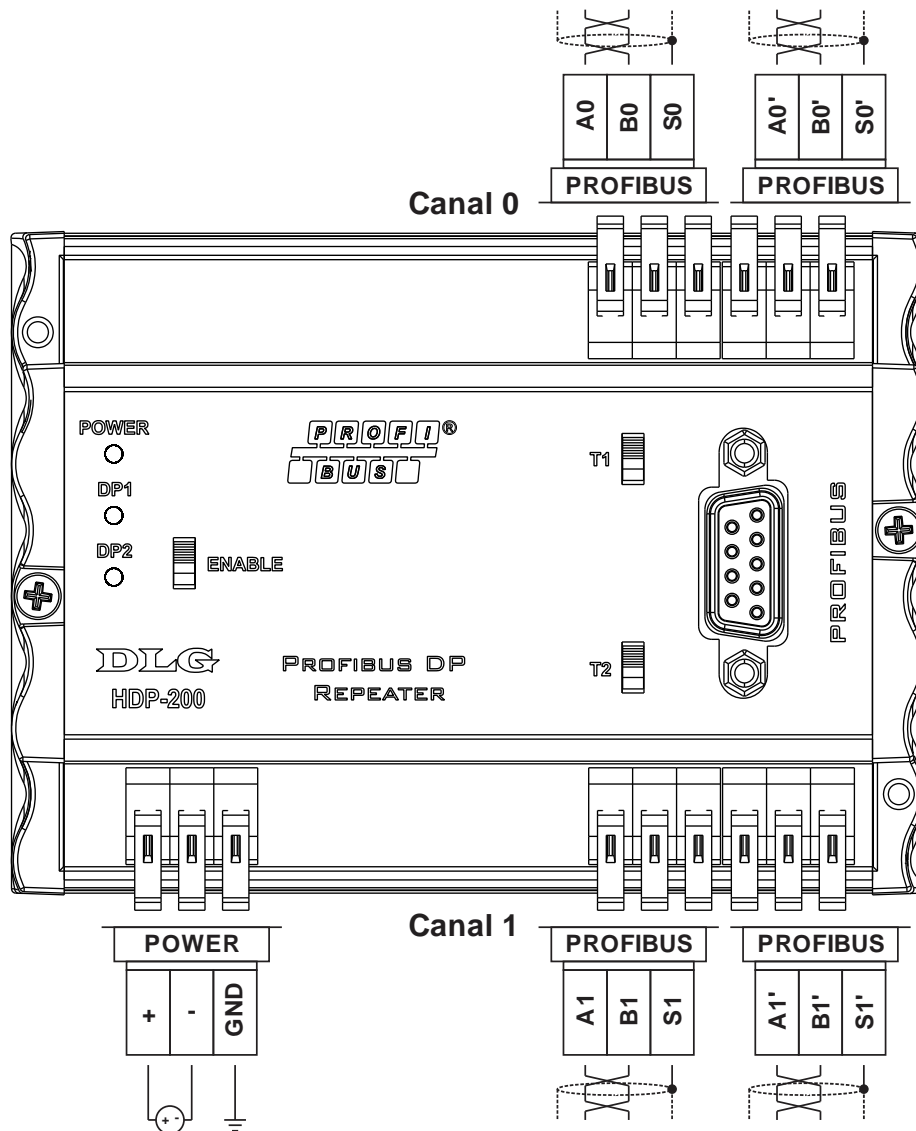

Figure 3 – HDP-200 Electric connections.
The HDP-200 has 2 serial communication channels using the Profibus DP protocol with a RS-485 physical layer. The channels can be accessed by upper and lower terminal equipment: positive (B), negative (A) and shield (S), as illustrated in Figure 3.